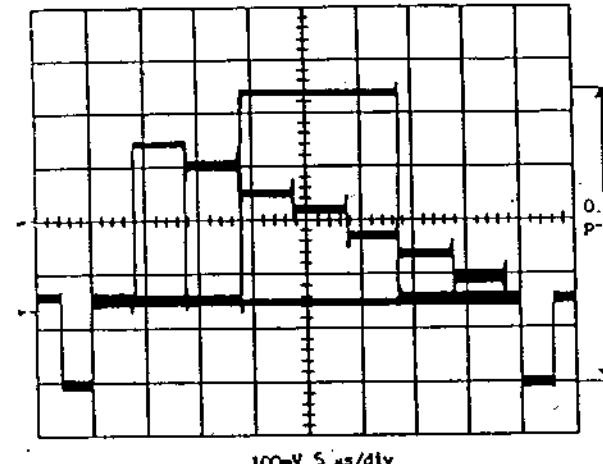

Fig. 12
- (1) Connect the oscilloscope to TP4005.
- (2) Adjust VR4004 so that the waveform measures  $0.53 \pm 0.01\text{Vp-p}$  as shown in Fig. 12.